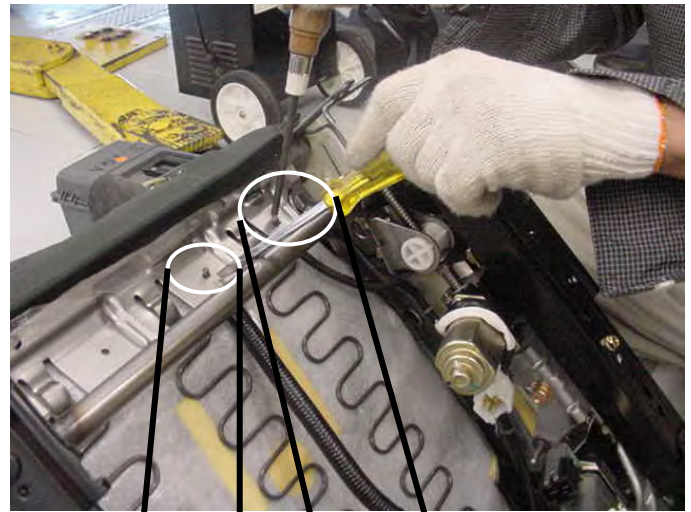

Figure 31
34. Remove both clips at the back of the seat cushion frame. (see Figures 31 and 32)